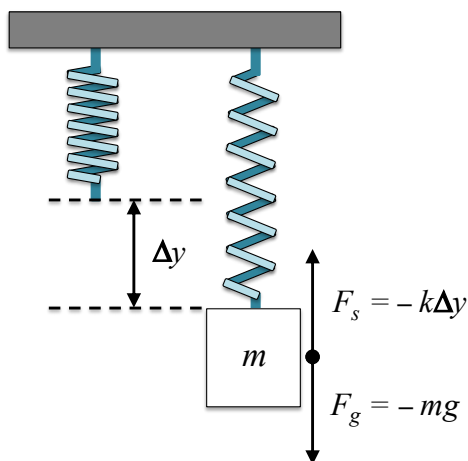

Figure 1 – Hanging a mass m from a spring stretches the spring by an amount Δy to a new equilibrium position.
Structures used in aerospace and mechanical engineering tend to vibrate and oscillate. The spring-mass oscillator is the simplest mathematical model for understanding this phenomenon. Shown in Fig. 1, a spring is stretched an amount Δy by hanging a weight of mass m . The weight comes to rest at a new equilibrium position where the spring force $F_s = -k\Delta y$ is balanced by the force of gravity $F_g = -mg$, where k is the spring constant in Hooke's Law.
1. Sketch Fig. 1 in your lab notebook.
3. Repeat the “sanity check” from Part I with the electronics mounted to the weight. Re-measure the mass of the weight with the electronics mounted to it. Recompute the theoretical resonance frequency using Eq. (3). The spring constant k you computed earlier should still be valid.
5. Make your sketch of Figure 1 in your lab notebook includes the X and Y axes of the accelerometer.